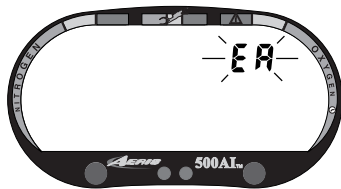

Fig. 61 - EA Mode
- the letters EA appear, flashing (Fig. 61)